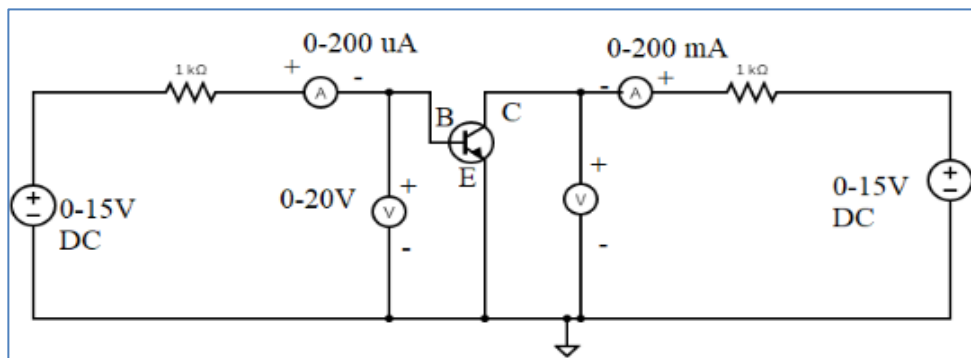

Fig 12. CE configuration
4.1 Verification of input and output characteristics of CE Configuration using hardware shown in fig 12 and draw the Waveforms.